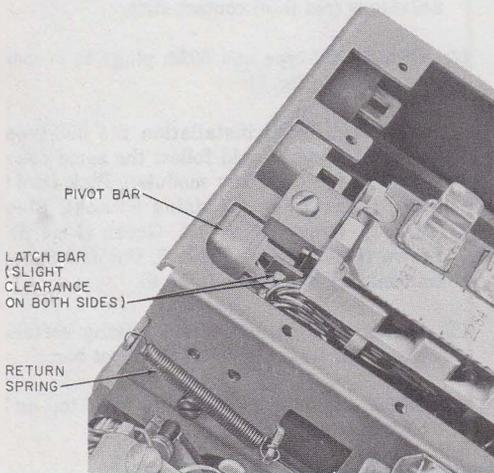

Fig. 6—Positioning 590 and 650 Series Keys
➤ **Before installing additional keys or replacement keys, check for free pivot bar motion and proper return spring action (Fig. 6).**
- (1) Install the desired key and tighten mounting screws. Check for clearance between pivot bar and connector mounting bracket on key.
- (2) Depress the top button (first line pickup) of the key in left-most position until its bar moves to its forward-most operating position and hold in this position. Do not lock down.
- (3) While holding the (reference) key latchbar as in (2), slowly depress the top button of the key and observe the effect of its latchbar on the pivot bar. If the pivot bar moves significantly in the forward direction, the installed key is positioned too high. To correct, loosen the screws and slightly lower the key until the pivot bar has no perceptible forward motion. Retighten screws.
- (4) Depress the top button of the installed key as in (2) and hold its latchbar in the forward-most position as in (3). Observe the effect of the latchbar of the (reference) key on the pivot bar while slowly depressing its top button. If the pivot bar moves significantly in the forward direction, the installed key is positioned too low. To correct, loosen the screws and very slightly raise the key until the pivot bar has no perceptible forward motion. Retighten screws and recheck (3).
- (5) Loosen the screws of the (reference) key. With no buttons down and the latchbar held in, shift the reference key until latchbar notch is centered over edge of pivot bar (Fig. 6). Tighten screws while maintaining key and latchbar position.
- (6) Moving from left to right, progressively position and check each key relative to the reference key as in (3) and (4).